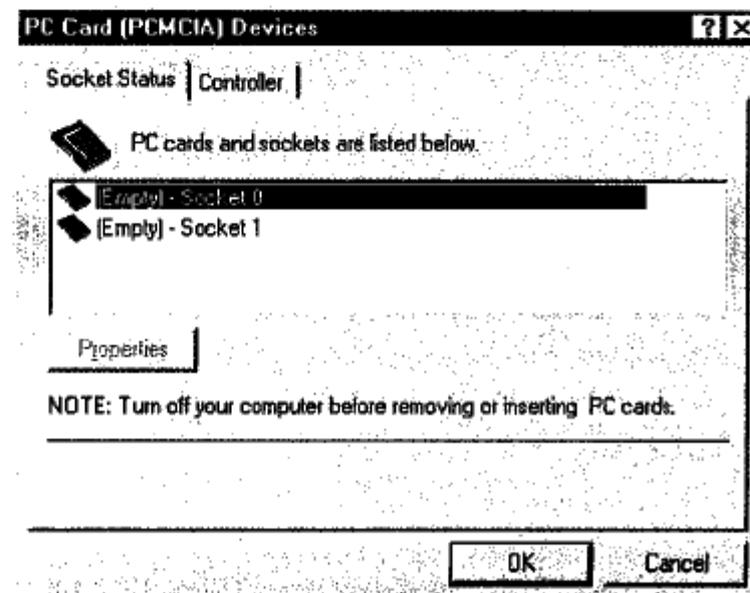

Figure 3-17
- 3-2 In the "Control Panel", double-click the "PC Card" icon to open the "PC Card Device" window as shown in Figure 3-17.